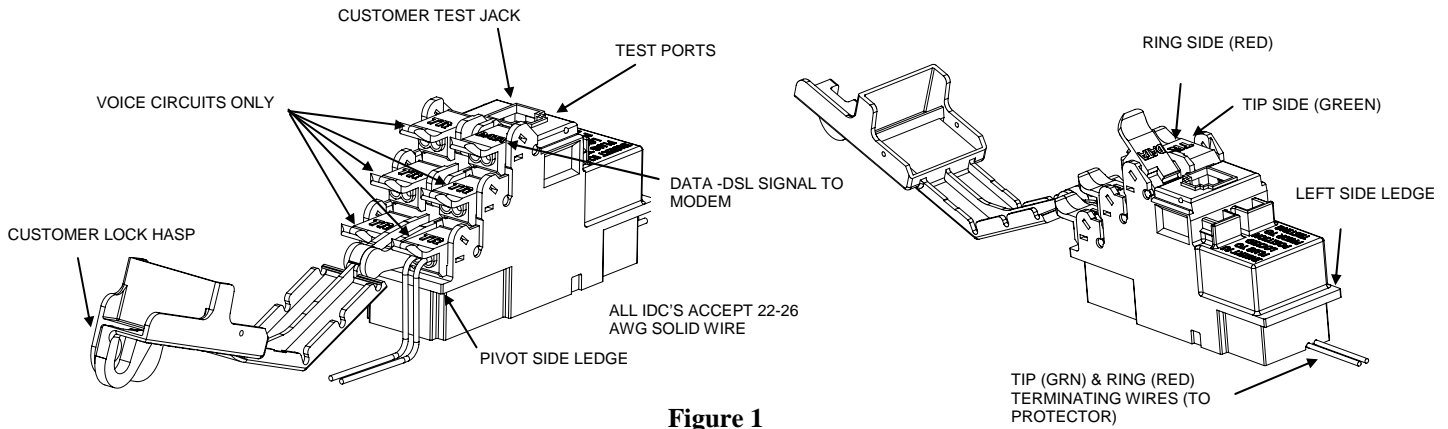

Figure 1
- 1.2 The Splitter Module is equipped with a customer test jack (see Figure 1). The customer can insert the RJ-11 plug from a working telephone into this test jack to assure a signal is received from the central office. This is the only time the customer is disengaged (both DSL and POTS service) from the central office.
- 3.2.1 Five telephone voice (POTS) pairs and one DSL line (DATA) can be connected to a single Splitter Module. The customer has the option of installing a #10 Master lock around the customer lock hasp (see Figure 1).
- 3.2.2 When installing the first pair of customer telephone wires, always begin with the bottom terminating rockers (see Figure 1).
- 3.2.7 Lift all Splitter Module rockers to the open position as shown (see Figure 1).
- 3.2.13 Terminate additional voice pairs to lower right and upper left rockers as required (See Figure 1).